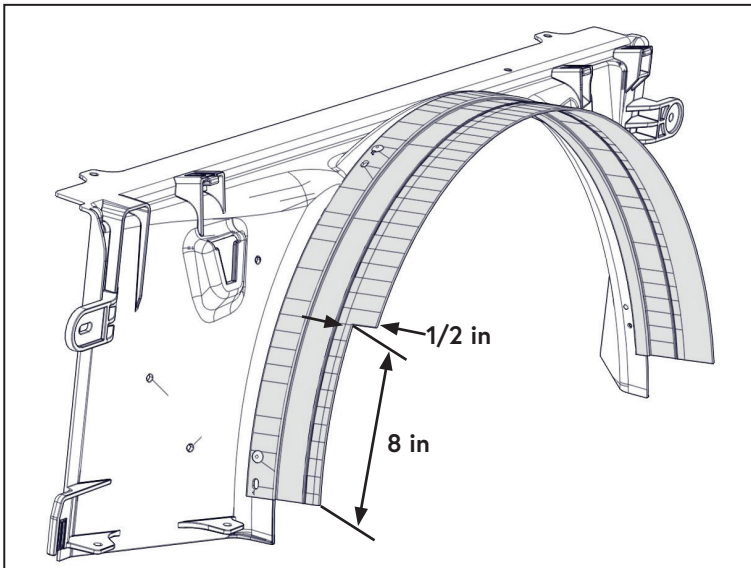

Figure 41 — Fan shroud modification
- Cut a rectangle out of the soft rubber section on the back of the fan shroud (Figure 41).